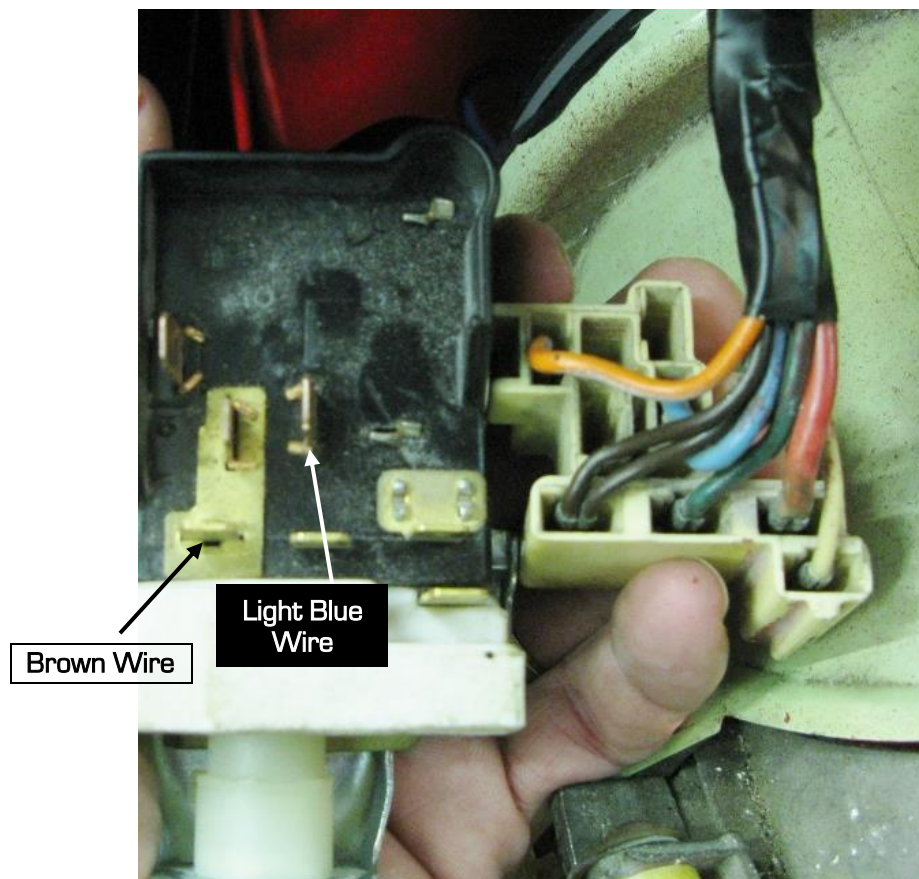
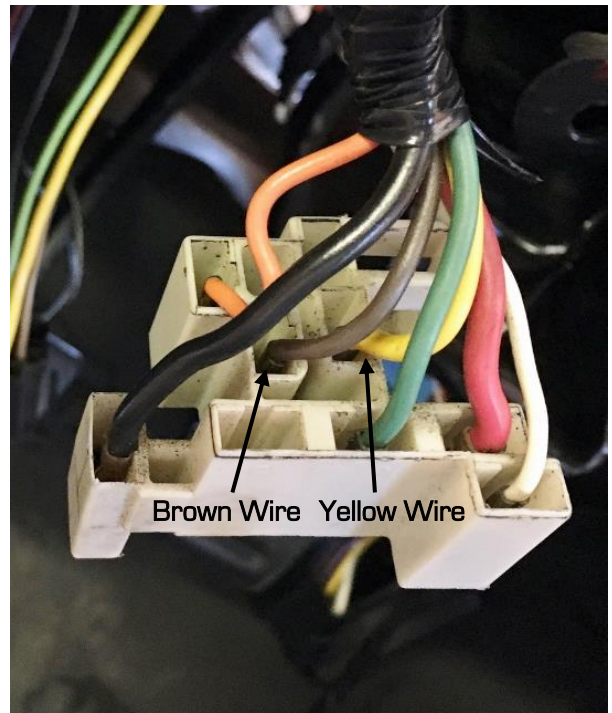

Figure 25 - Early C3 Stock Headlight Switch
Figure 27 – Late C3 Stock Headlight Switch
28. For the early & mid C3 applications, locate the light blue and brown wires and remove the terminals from the connector using a terminal removal tool or a small flat blade screwdriver (Figure 25 below & 26 on the next page). For the later C3 applications, the yellow wire and the brown wire terminals will need to be removed (Figure 27 on the next page). **NOTE:** The brown wire is also in a different location between the early and mid to late C3 vehicles.